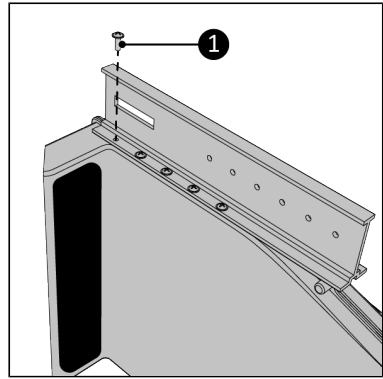

Figure 61.
6. Screw the main rail to the Way-out using the ten 3,5 x 10 mm screws (Figure 61, pos. 1). Make sure all screw holes match up.